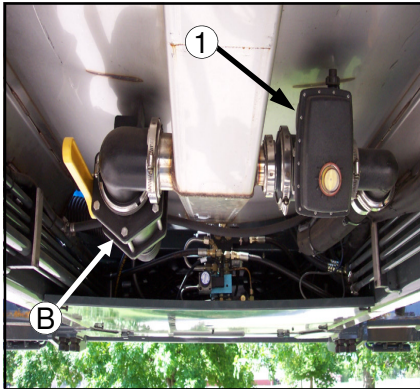
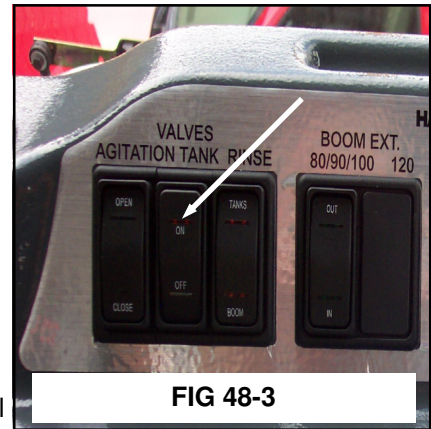

FIG 48-2
FIG 48-3
**SOLUTION TANK VALVE**– The solution tank valve (fig. 48-2, item A) controls the amount of solution coming out of the tank. The valve is controlled from inside the cab with the TANK VALVE switch (fig. 48-3) located on the right hand console.
**TANK SUMP VALVE**– The tank sump valve (fig. 48-2, item B) is a ball type valve that has to be turned on and off manually. This valve is to allow the fluid into the tank from the fill option.